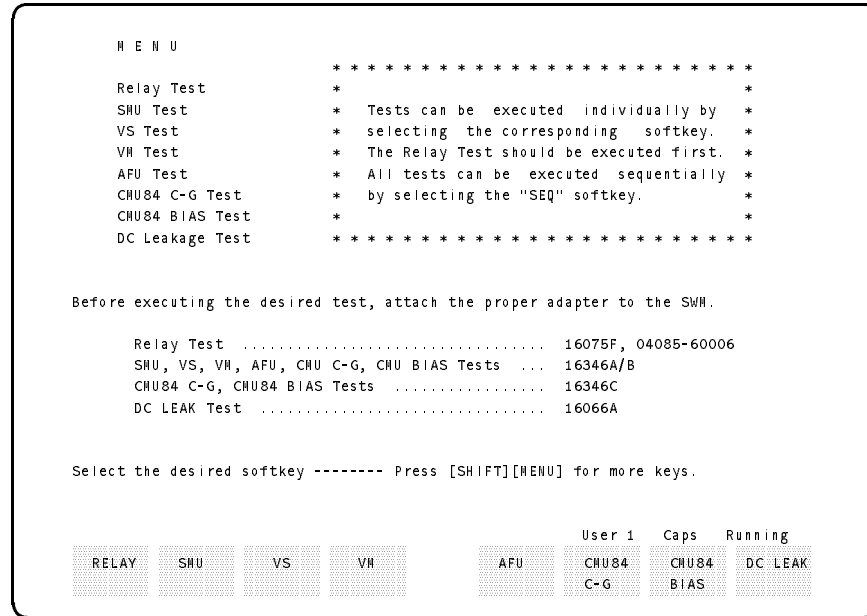

Figure 6-32. 4062F DC W/O DVM Menu Page
3. Select the **Start** softkey. The 4062F DC W/O DVM test menu page similar to Figure 6-32 is displayed.